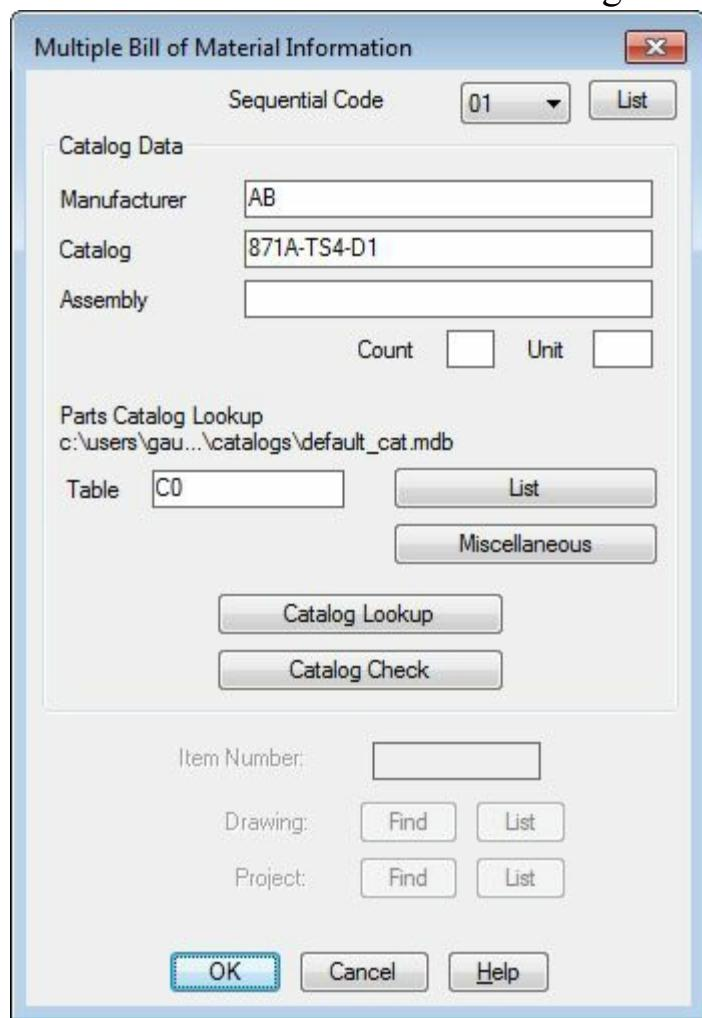

Figure-10. Multiple Bill of Material Information dialog box
- You can use multiple catalog for a component to display alternates for the component. To do so, click on the **Multiple Catalog** button from the **Insert/Edit Component** dialog box. The **Multiple Bill of Material Information** dialog box will be displayed; refer to Figure-10.